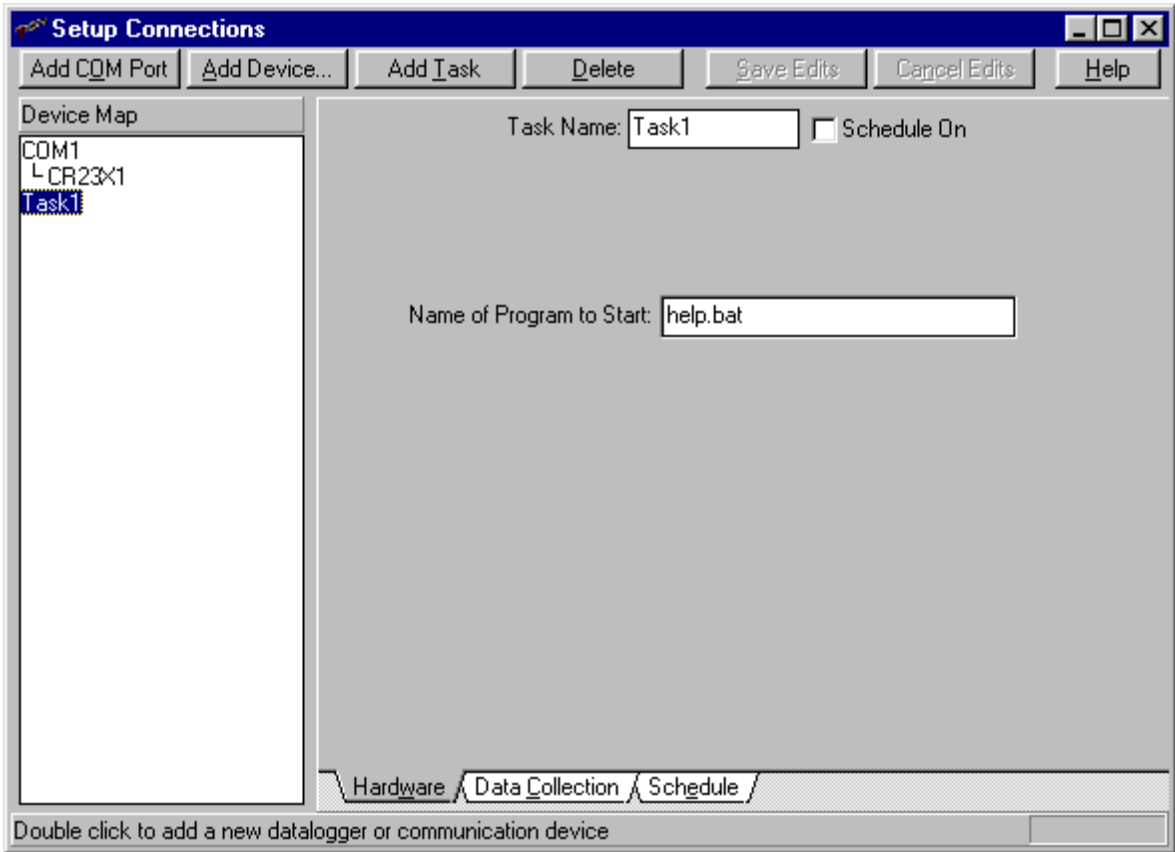

FIGURE G.2-3. Configuring a Task
- c) As shown in Figure G.2-3, go to *PC208W | Setup* and add Task1 to the device map. Also go to *PC208W | Setup | Task1 | Hardware* and enter the name of the executable file that will indicate an alarm.